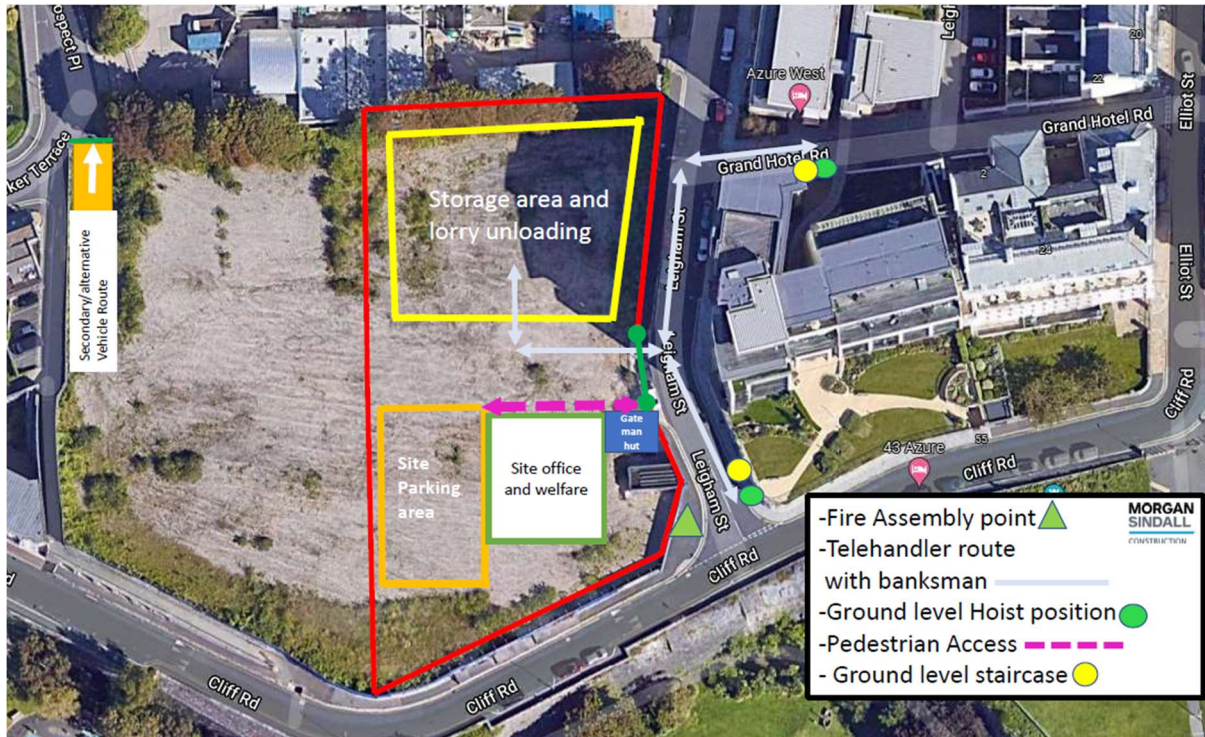

Figure 2 – AZURE site set up.
2.2.3. All delivery vehicles to be moved off the public highway as soon as practically possible and on to site to await unloading as shown in Figure 2.
2.2.4. All deliveries will be unloaded in the off-road storage area as shown in Figure 2.
3.2.1. The site's access for the construction works will be via Leigham Road as Figure 2.
3.2.4. On arrival at the site all construction traffic will be directed by gateman/site manager to the designated unloading area. The Site Manager will enforce that there will be no parking of site vehicles on or at the main site access, or anywhere within the existing immediate surrounding highway network. Off road parking is provided within the site set up shown in Figure 2.
4.2.2. All staff vehicles to be parked in the off-street parking area as shown in Figure 2.
- Full Time on-site Banksman. Banksman(s) will be utilised for all telehandler operations as shown on Figure 2.
- Temporary hoist/staircase to be erected on footpaths as shown Figure 2. Currently under review to try and reduce inconvenience of obstruction.
- 2Nr roll on- roll off skip in storage area as shown in Figure 2. Regular collection of full skips will be required.
- 1Nr telehandler as shown in Figure 2.
- Fluctuating numbers of contractor/staff cars. Parking to be in site parking area as shown in Figure 2.
- Fluctuating numbers of contractor's vans. Parking to be in site parking area as shown in Figure 2.
5.3.2. Waste is to be stored in skips on site in the storage area as Figure 2.